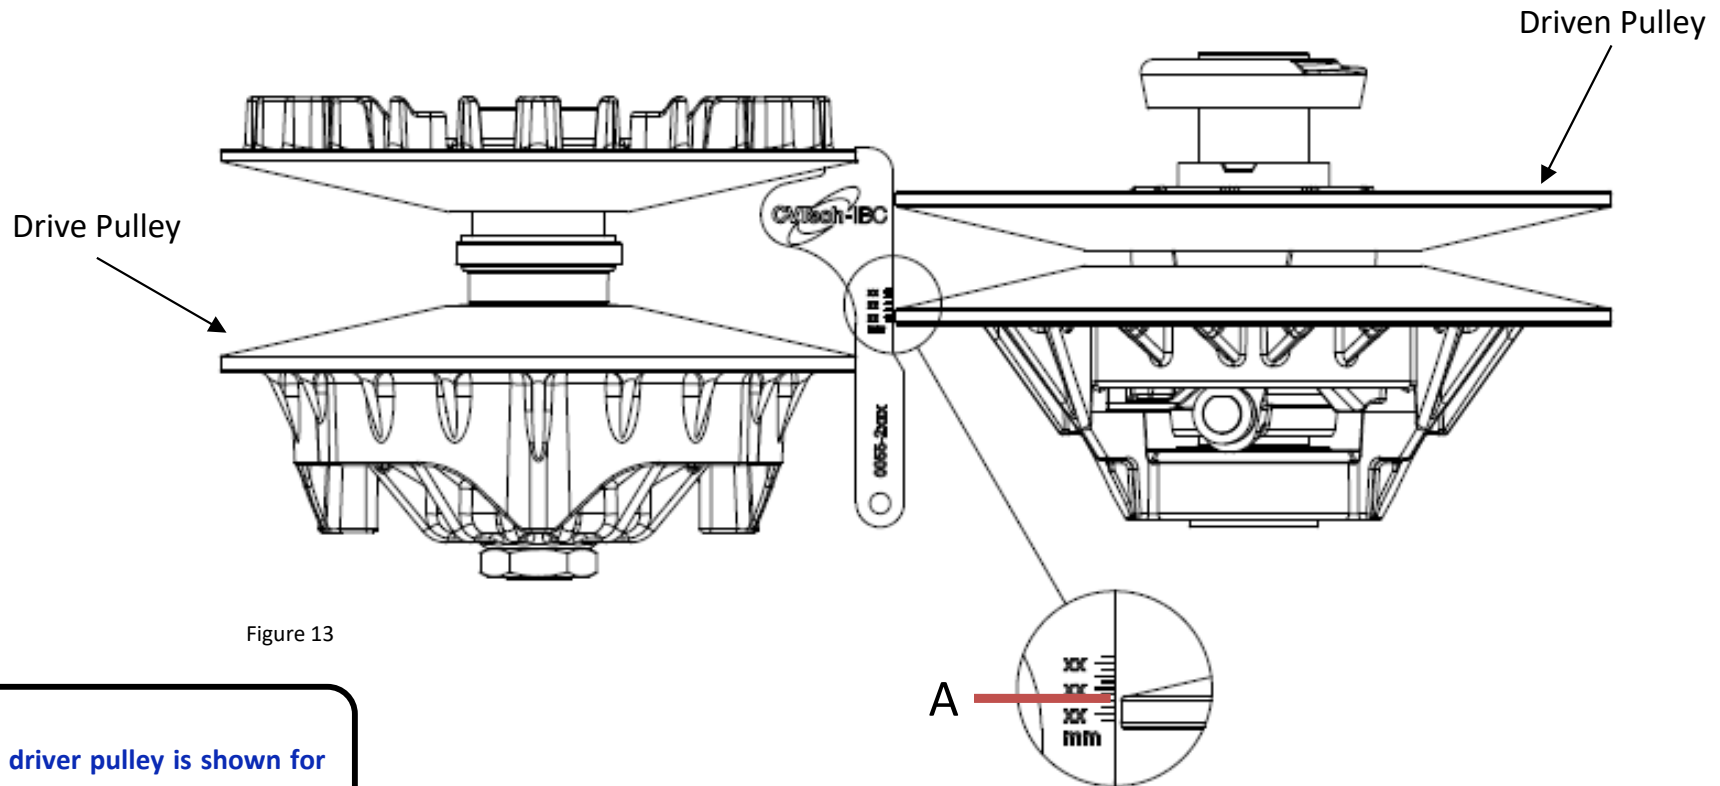

Figure 13
- After completing the installation, check the alignment between the pulleys with the alignment tool. Make sure to obtain dimension A (figure 13) and the proper alignment tool part number (refer to owner's manual for both).